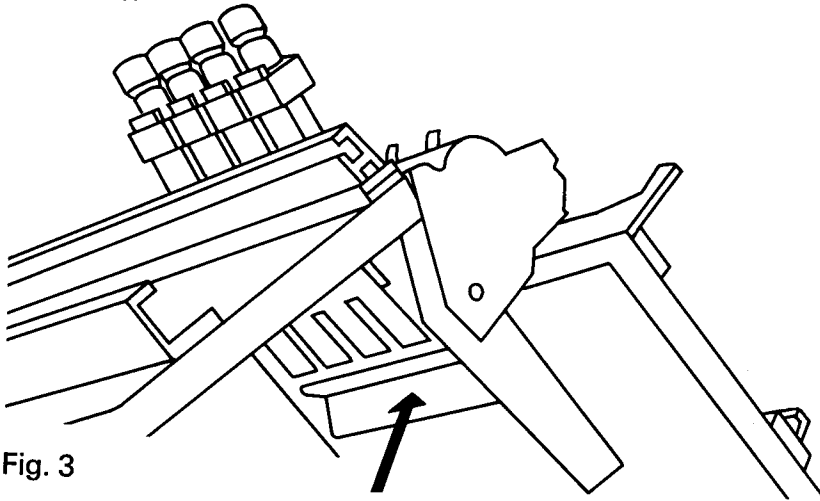
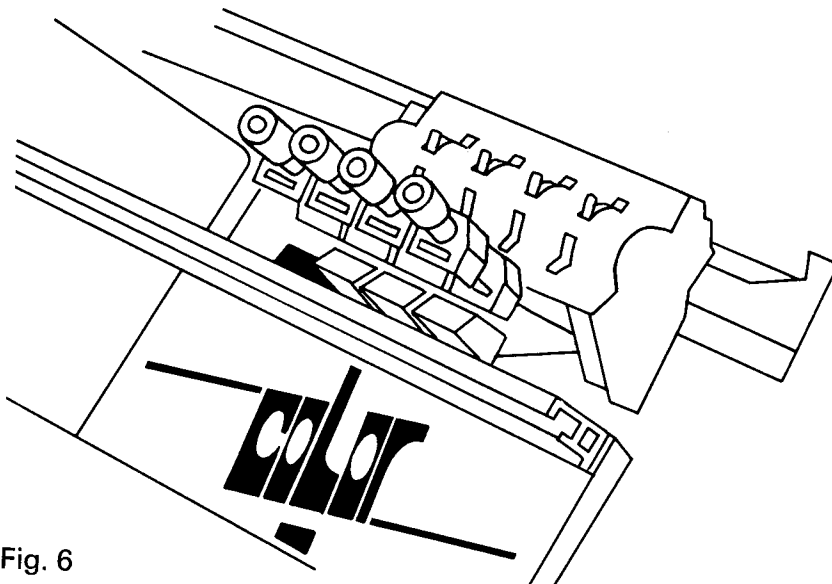

Fig. 3
Fig. 6
First push discharge flap: The discharge flap is placed underneath the switch box and fixed onto the side plate (back), Fig. 3.
All four feeding eyelets are in Neutral-Position as per Fig. 3. Press down one of the four selecting keys until it clicks into place. Thus the feeding eyelet support on the Color is pre-selected, in so-called Pre-Selecting-Position, Fig. 6.
One feeding eyelet of the lock has been received by the Color and is now down in Pre-Selecting-Position (Fig. 6). The next feeding eyelet has already moved up into Taking-Over-Position, but has not yet been taken over by the lock.
- Push discharge flap (Fig. 3).
If, by mistake, two selecting keys have been pressed down, first push discharge flap (Fig. 3) and then the *one* selecting key for the next colour.